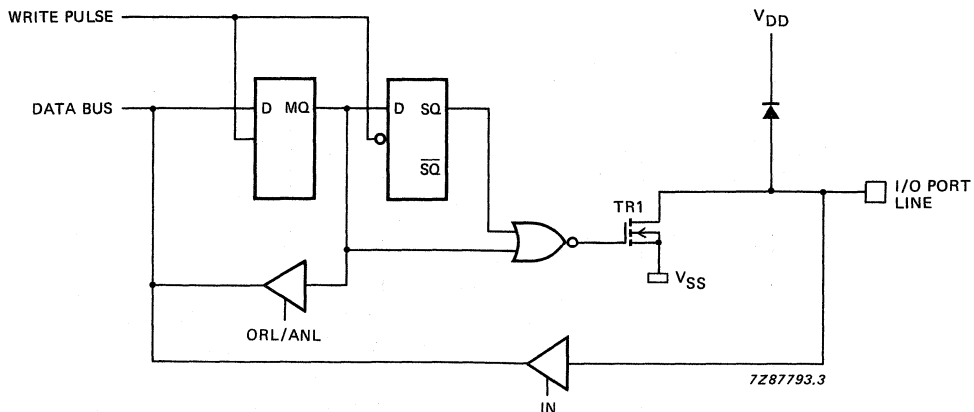

Fig.11 Open drain output.
- Option 2 **OPEN DRAIN**; quasi-bidirectional I/O with only an n-channel open drain output. Application as an output requires connection of an external pull-up resistor (see Fig.11).